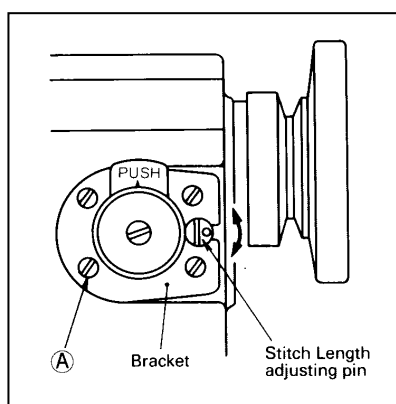

Fig.23
26、 Adjustment of stitch length and forward/backward sewing (Fig.23):